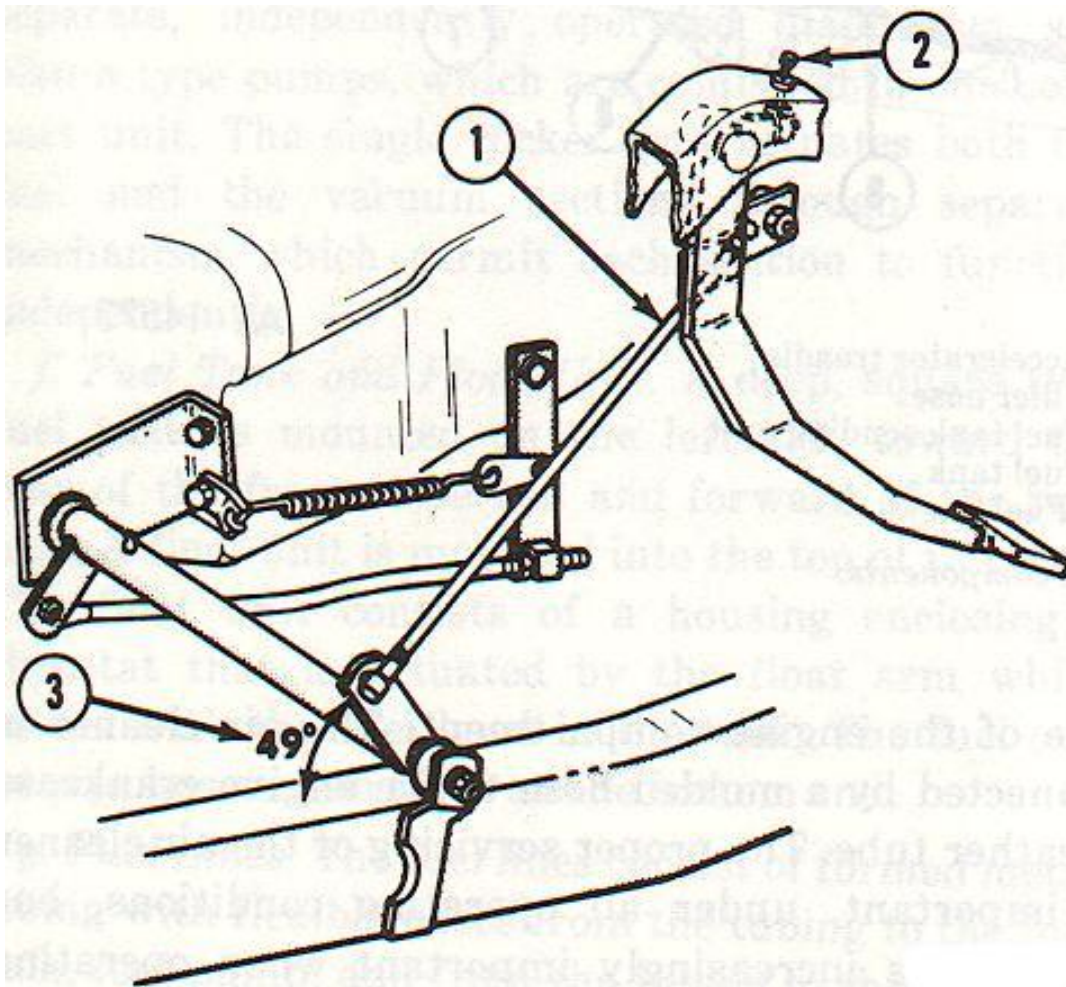

Figure 2-10. Clutch linkage and clutch pedal adjustments.
b. With the clutch pedal positioned up against the adjusting bolt, adjust the length of the rod so that it can be connected to the pedal with a 49 angle maintained between the frame and cross shaft lever at the point indicated in figure 2-10.